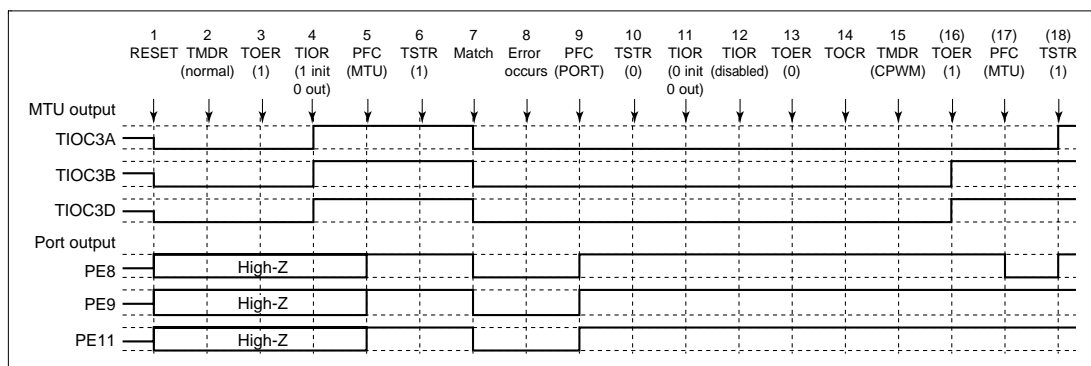

Figure 12.100 Error Occurrence in Normal Mode, Recovery in Complementary PWM Mode
(5) Operation when Error Occurs during Normal Mode Operation, and Operation is Restarted in Complementary PWM Mode: Figure 12.100 shows an explanatory diagram of the case where an error occurs in normal mode and operation is restarted in complementary PWM mode after re-setting.
1 to 13 are the same as in figure 12.100.